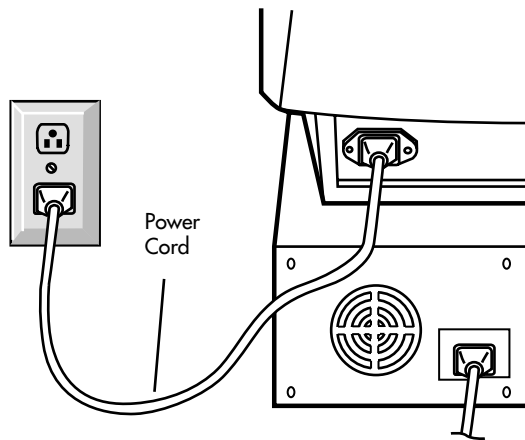

Figure C.1
**NOTE: To obtain the AccuSync125F Macintosh cable adapter, call NEC-Mitsubishi Electronics Display of America, Inc. at (800) 632-4662.**
5. Connect one end of the power cord to the AccuSync125F monitor and the other end to the power outlet (**Figure C.1**).